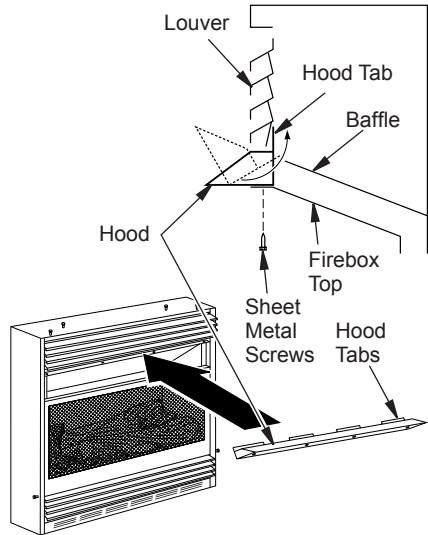

Figure 3 - Assembling Hood
2. Rotate hood as shown in Figure 3. Make sure hood tabs point toward fireplace.
3. Insert hood tabs between baffle and louvers (see Figure 3).
4. Gently rotate hood to upright position. Make sure hood tabs are behind louvers and hood is resting on firebox top (see Figure 3).
6. Insert screws as shown in Figure 3. Tighten screws firmly.